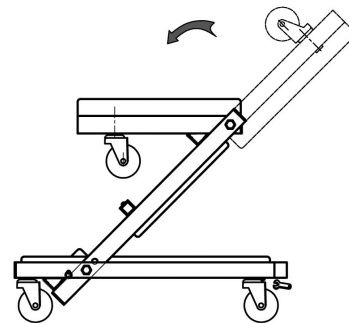

Figure 4 - Adjusting Creeper to seat configuration
1. Unlock the spring loaded Lock Pin by pulling out until disengaged, at the same time rotate the Head Frame and Middle Frame upward and back towards the Rear Frame section until the Lock Pin can engage the Creeper Seat Locking Sleeve (Fig. 4). Ensure Lock Pin is fully engaged.